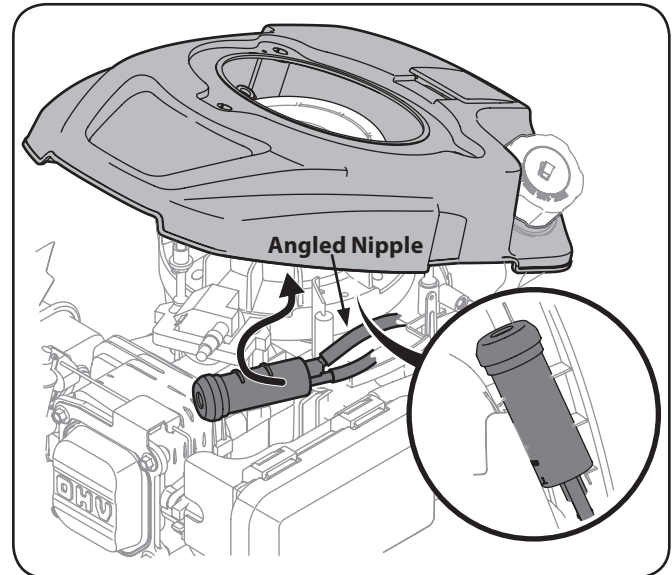

Figure 6-5
6. Snap the carbon canister filter assembly back into place under the inner engine shroud. See Figure 6-5 inset.